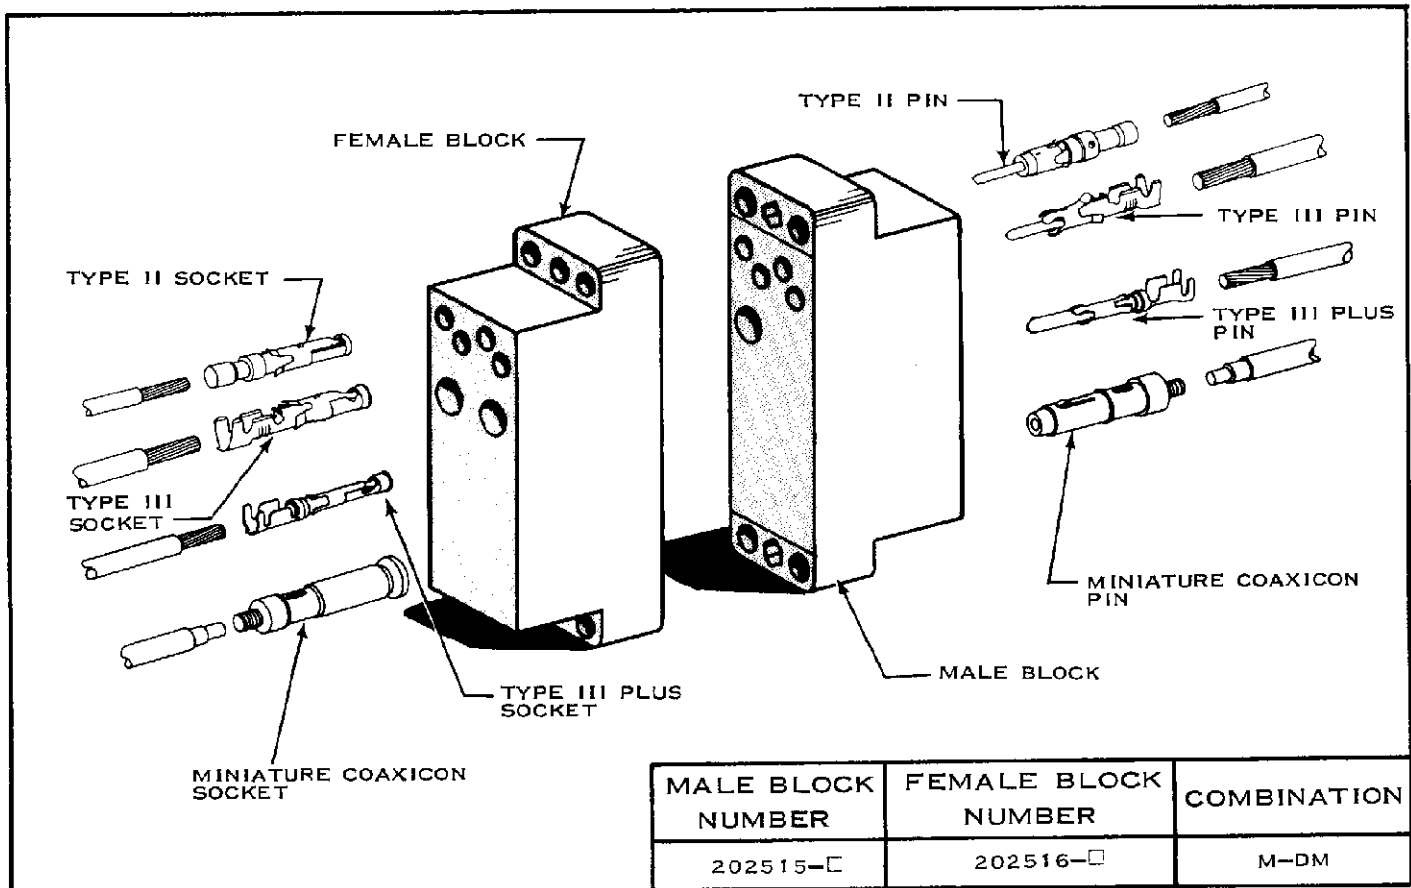

Fig. 1
1. These instructions cover the A-MP 42 Position Series "M" Connectors shown in Figure 1. Read them carefully before assembling the Connector.
- Push Contact all the way into Connector Block. See Figure 1.